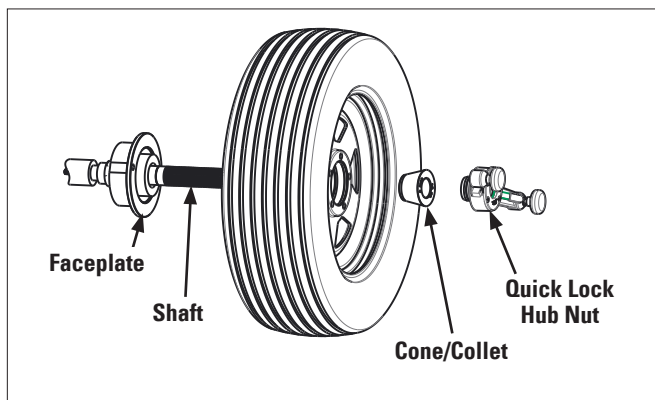

Figure 25 - Front Cone/Collet Mounting
**Note:** If the hub nut will not tighten completely, use the standard front cone mounting method (figure 25).